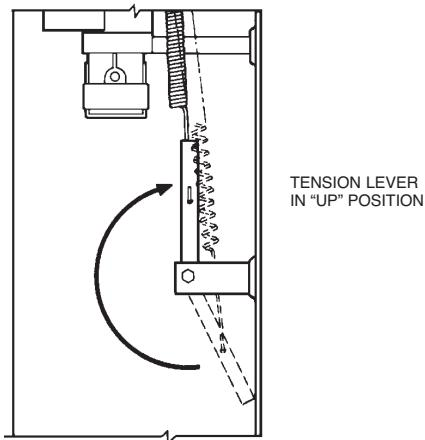

FIGURE 34
13. Make certain tension lever is in the “UP” position. See Figure 34.